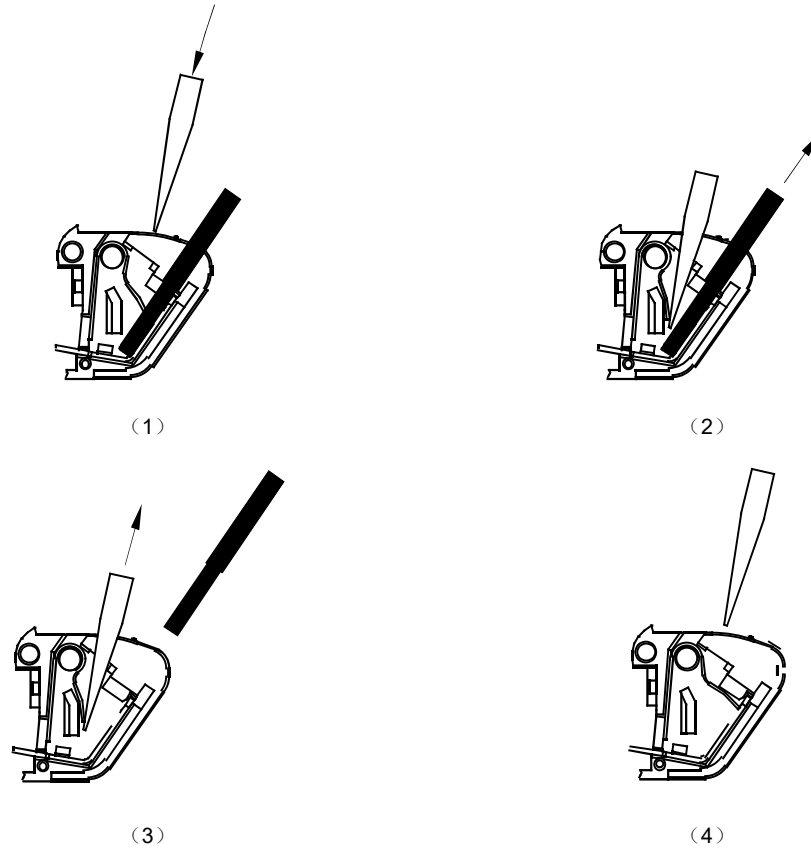

Figure 5
- How to remove the wires in Figure 5